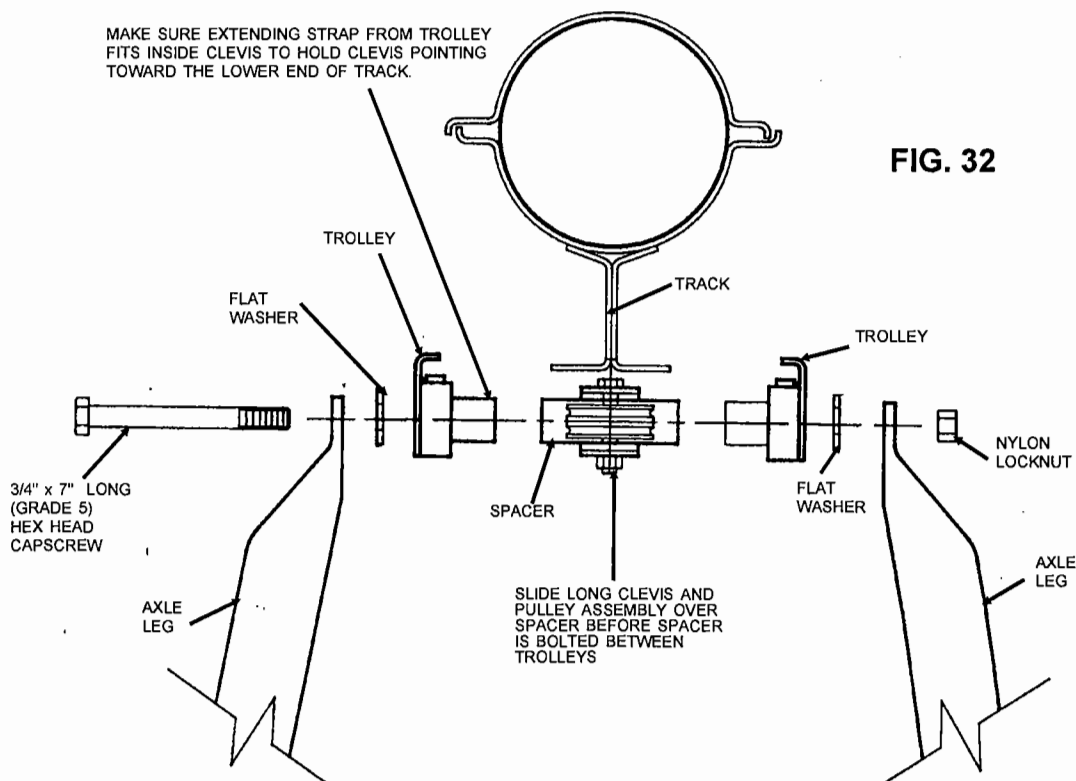

FIG. 32
- Step 26. Lift the discharge end of the auger tube with adequate hoist, attaching it about 2/3 of the way from the intake end of the auger. Raise the discharge end of the tube assembly about 6'. Roll the undercarriage into position. Lift the axle legs and bolt trolley and trolley spacer with long clevis and pulley assembly together using 3/4" x 7" long (grade 5) hex head capscrew, flat washers and nylon locknut. See Fig. 32.